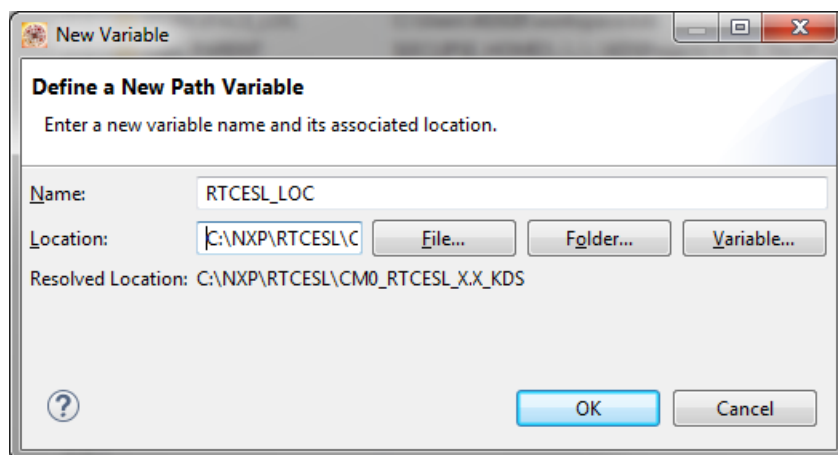

Figure 1-15. New variable
- In the dialog that appears (see Figure 1-15), type this variable name into the Name box: RTCESL_LOC.